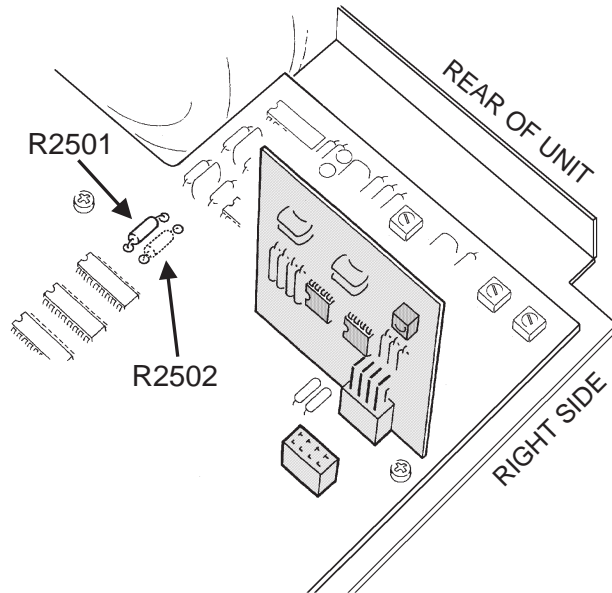

Figure C-3. Cable positions for monitor selection
2. Locate resistor R2501, 620 Ω , at the location on the Analyzer circuit board as shown on Figure C-3 above.